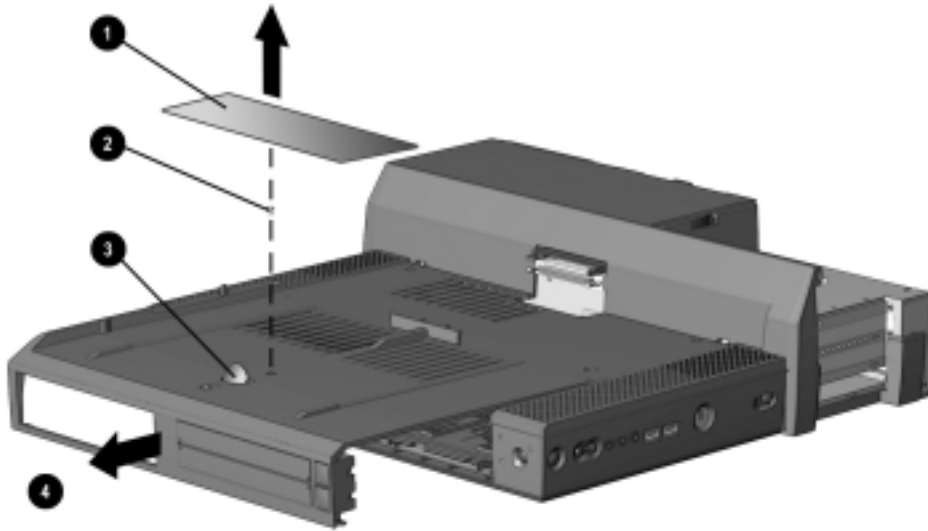

Figure 5-5. Removing the Tray
3. Remove the label ❶ and screw ❷ located behind the retaining latch ❸ (Figure 5-5).
4. Pull forward ❹ on the retaining latch to remove the tray.